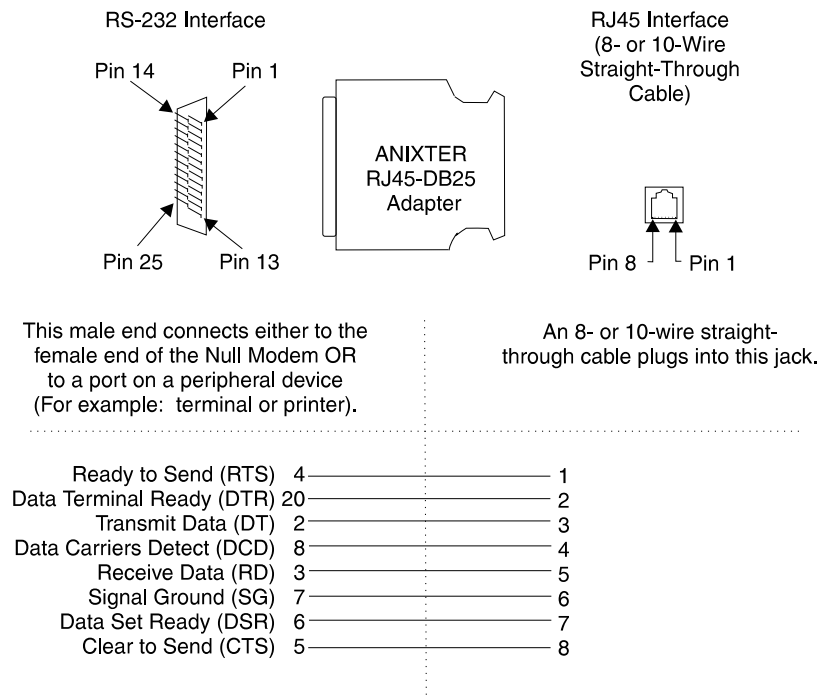

Figure 4-9: ANIXTER RJ45-DB25 Adapter (8- and 16-Port NTS)
Both the 8- and 16-port NTS provides RJ45 jacks and need an adapter (*ANIXTER* *RJ45-DB25) to convert to a 25-pin RS-232 connection (see Figure 4-9).
- *ANIXTER* RJ45-DB25 adapter (see Figure 4-9)